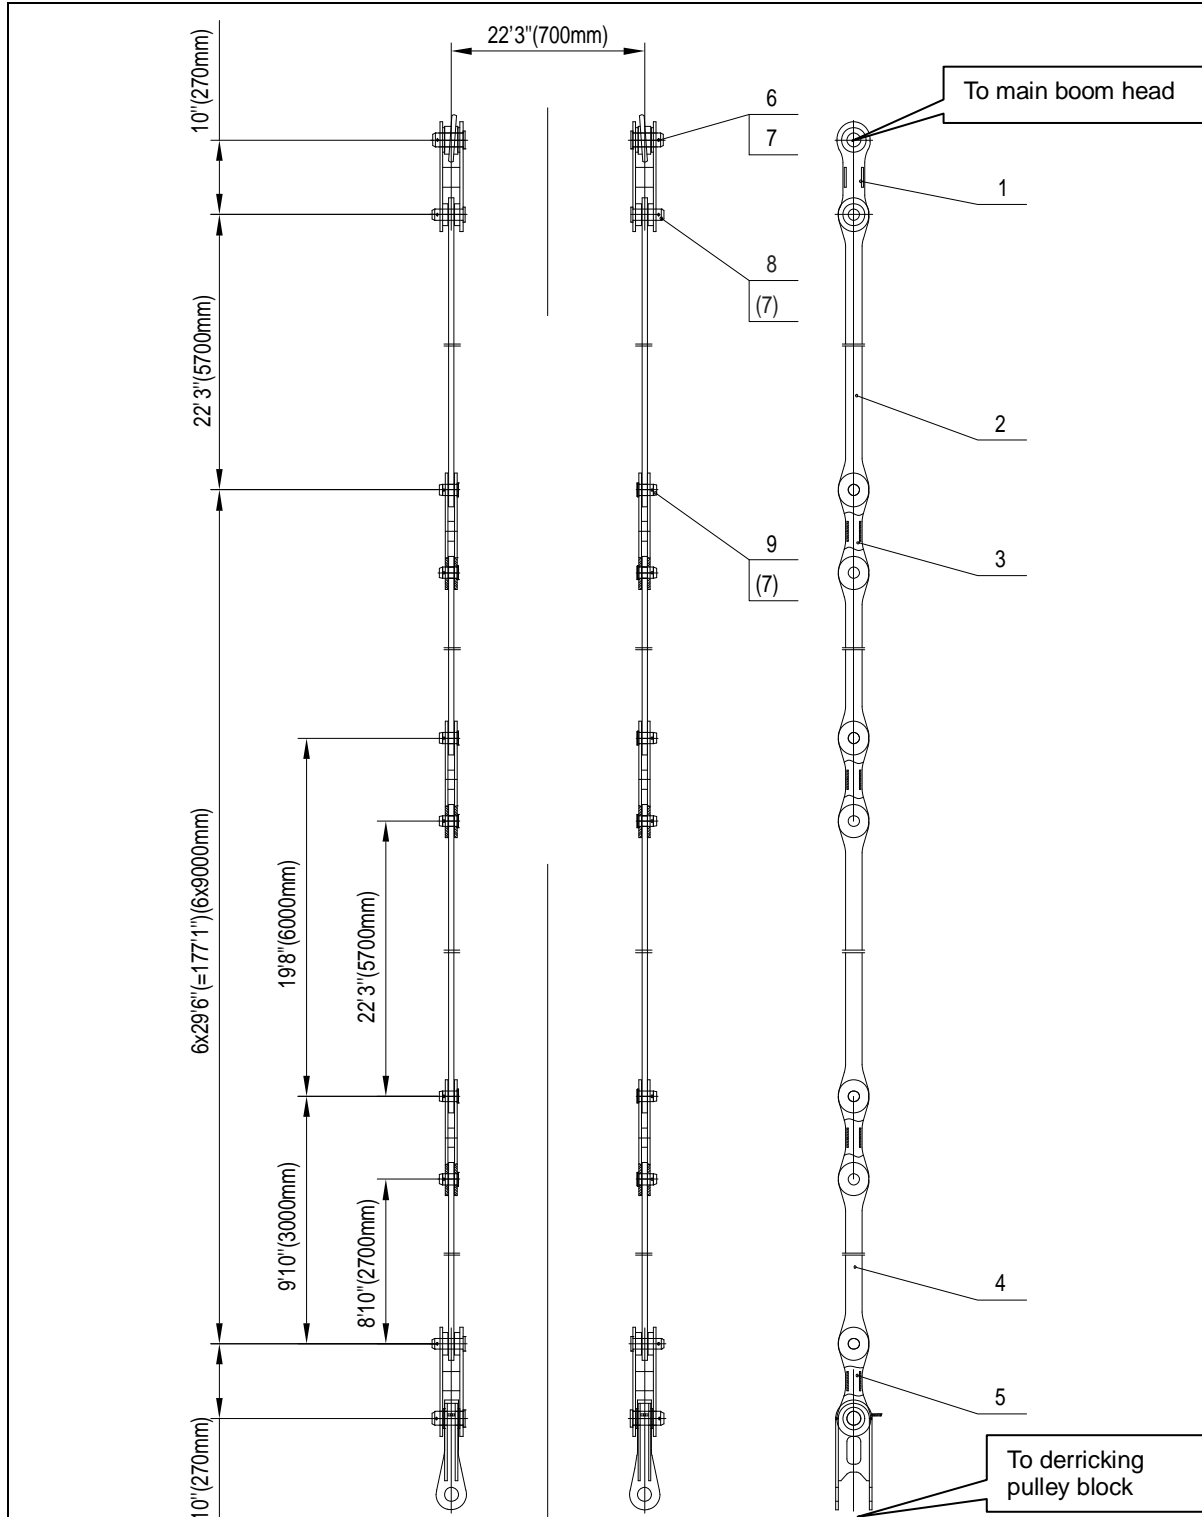

Figure 5-42 Combination of 219'10" (67m) main boom anchoring rods
Now, we will illustrate the connecting methods for 219'10" (67m) main boom anchoring rods. Please see the figure 5-42.
The explanation of component numbers in the figure 5-42 is shown in the table 5-9.
- (1) The component numbers of main boom anchoring rods given in the figure 5-42 "Combination of 219'10" (67m) main boom anchoring rods" are consistent with those in the table 5-9, so the components of anchoring rods can be found by referring to the component numbers.
- (2) The pin spindle must be inserted outwards.